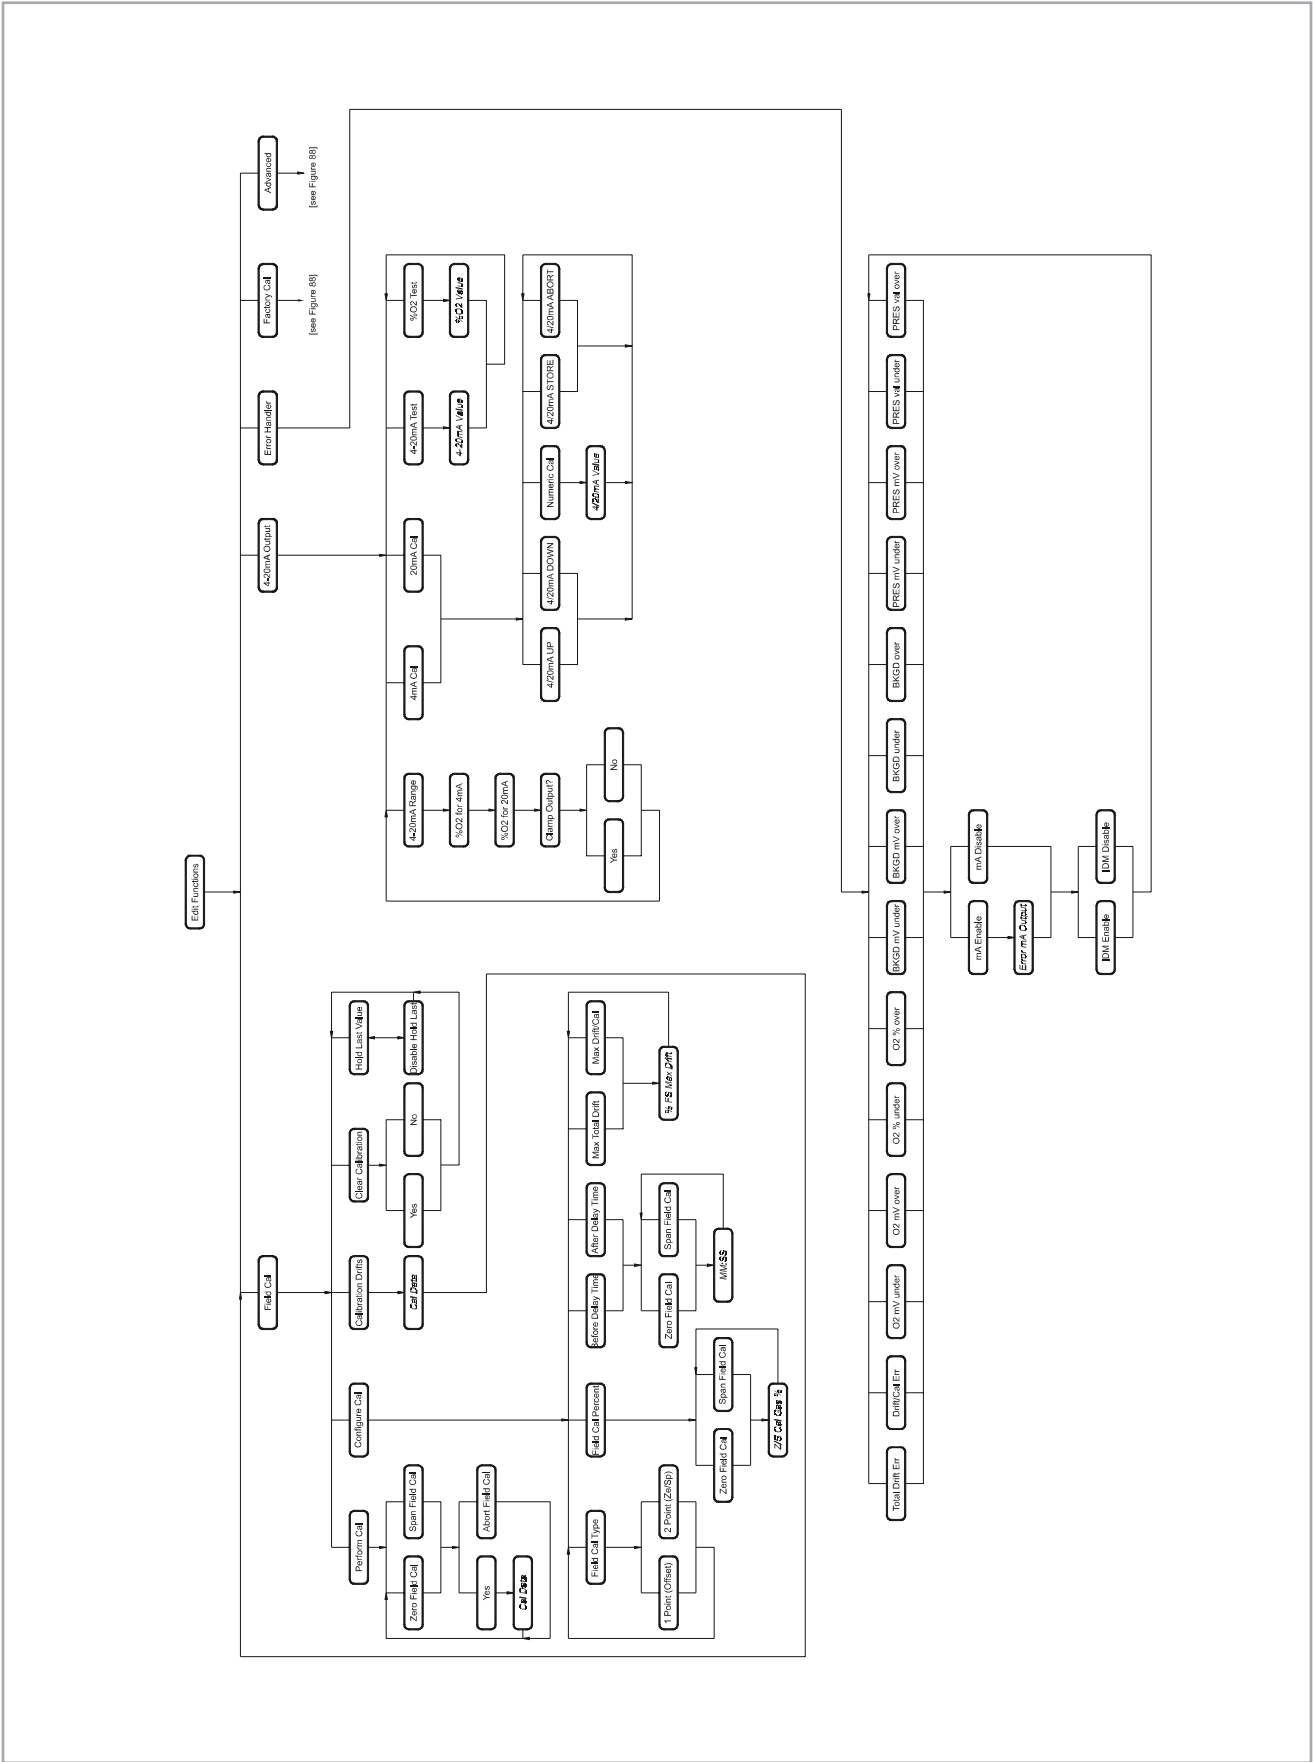
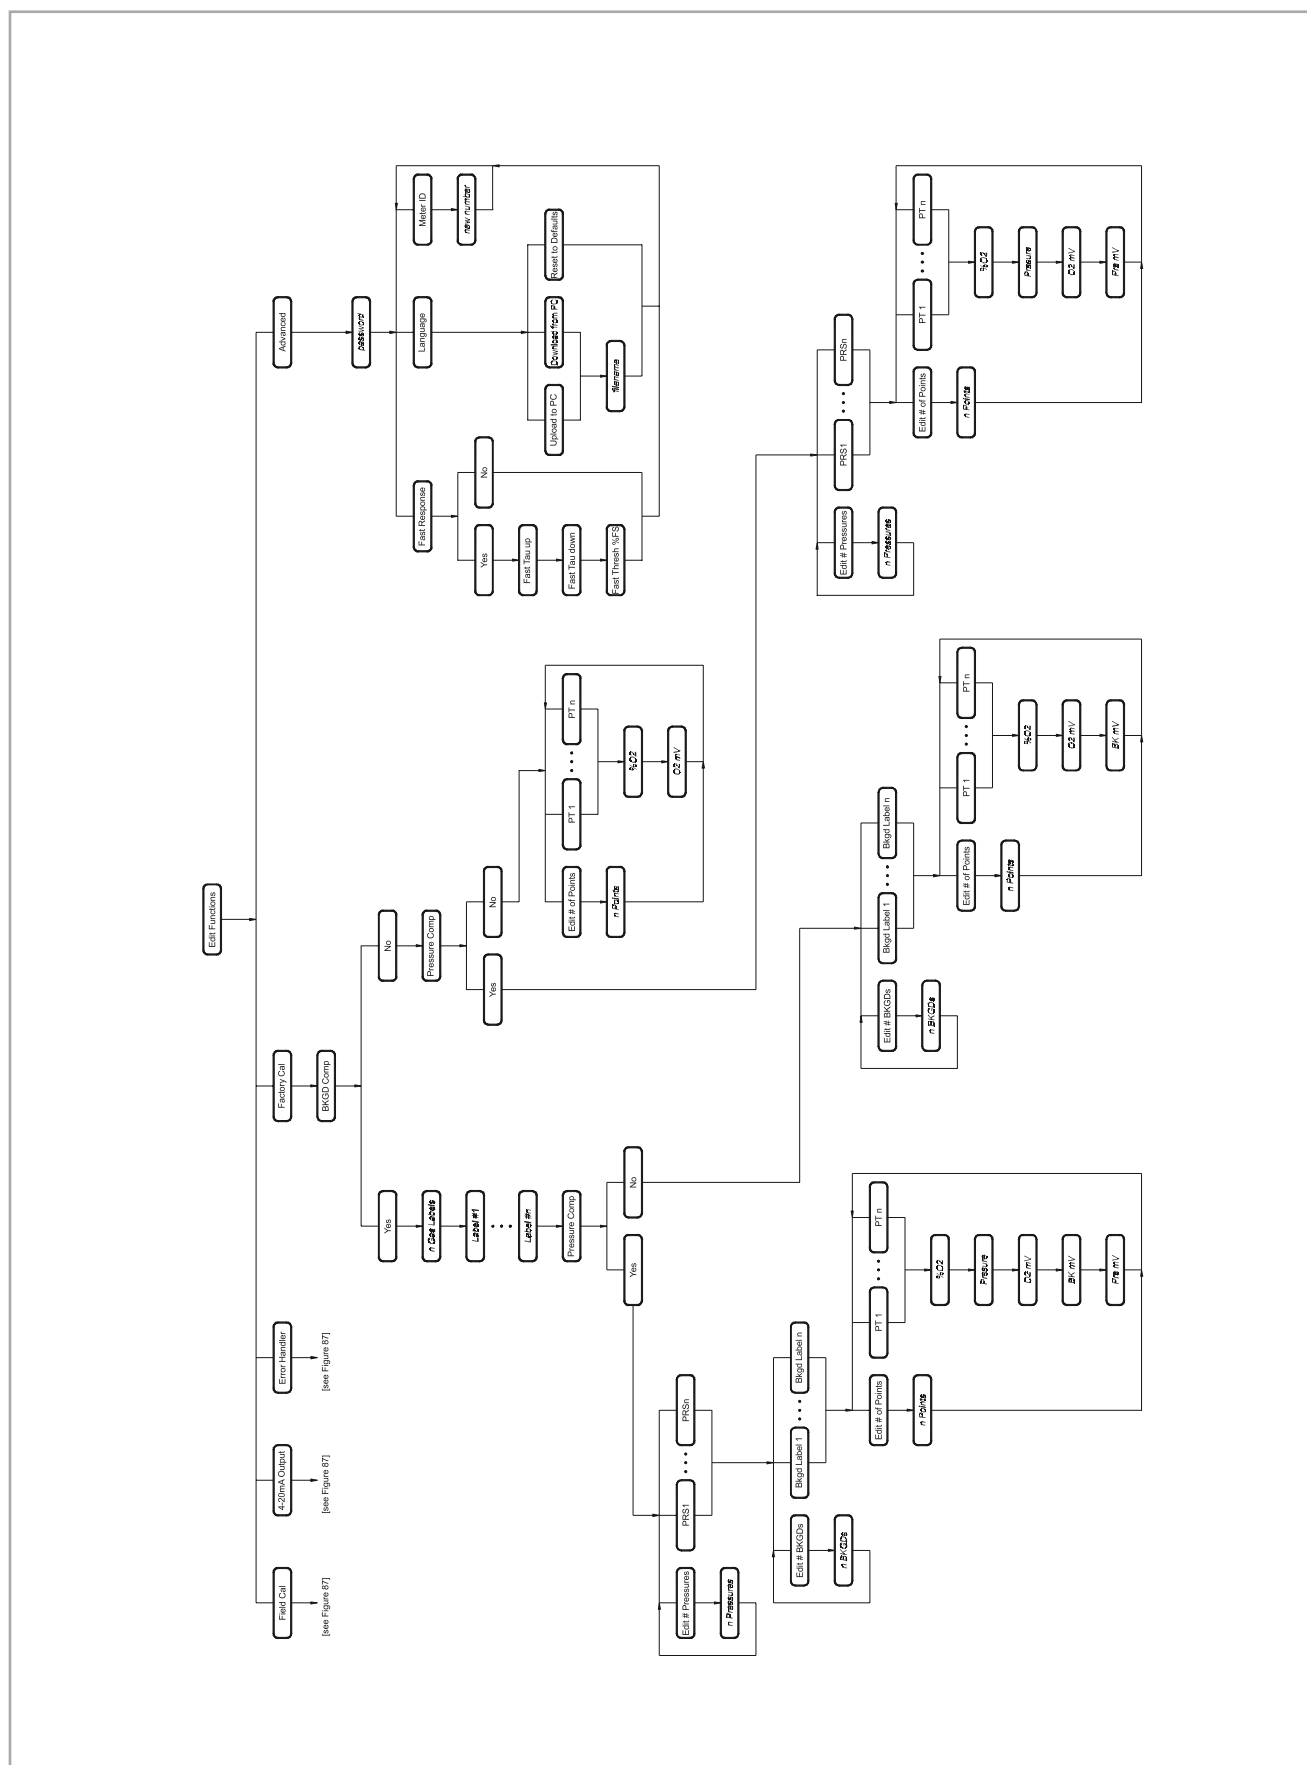
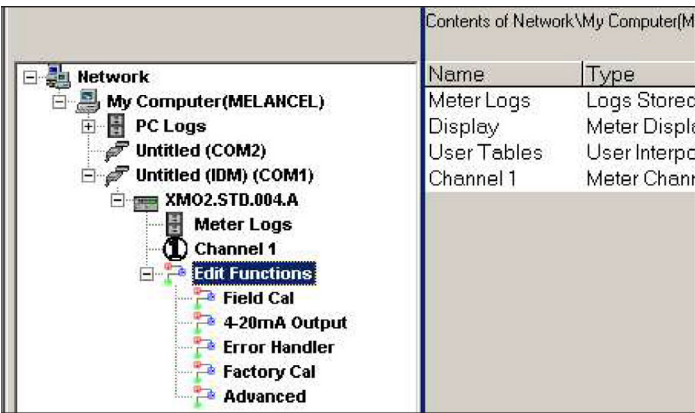

Figure 75: Field Cal, 4-20mA Output and error handler menu map
Figure 76: Factory cal and advanced menu map
Figure 84: Meter tree with edit functions option
- Figure 75, "Field Cal, 4-20mA Output and Error Handler Menu Map," on page 62
- Figure 76, "Factory Cal and Advanced Menu Map," on page 63
4. From the meter tree, expand the *Edit Functions* option. The window now appears similar to *Figure 84* below, with a list of available menus. The five menus listed are those available through the IDM interface, as discussed in Chapters 3 and 4. Refer to the menu maps on *Figure 75* on page 62 and *Figure 76* on page 63 as a guide to programming.